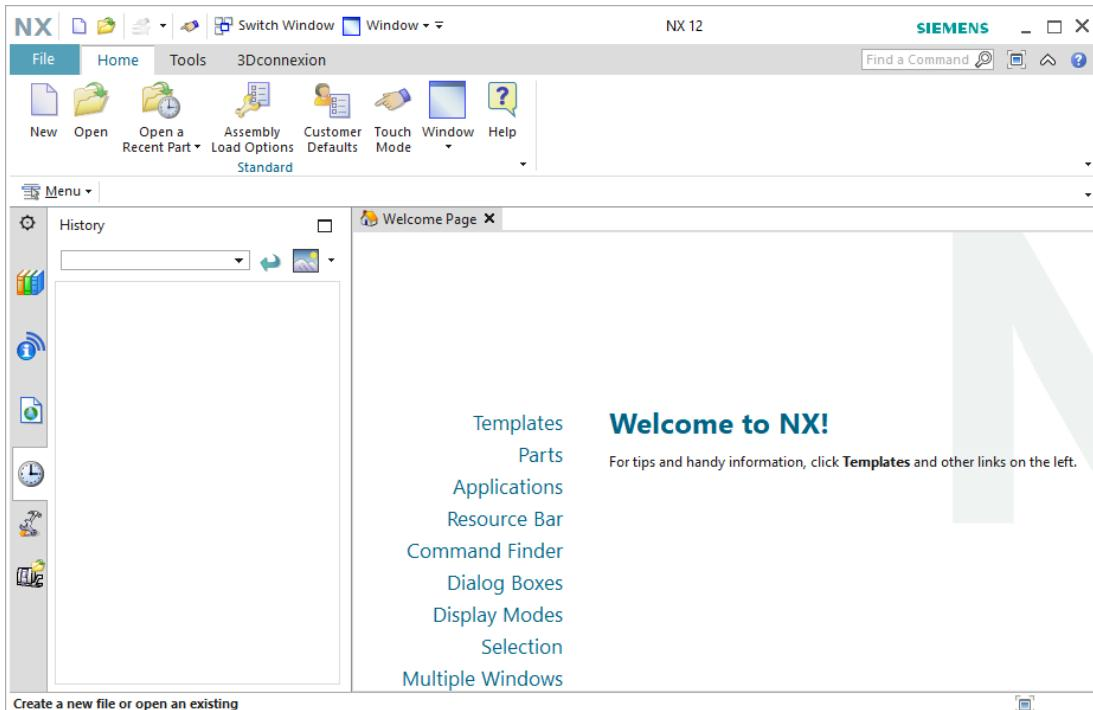

Figure 6: Welcome Page of the NX software
1. First, ensure that the "NX V12.0" software is installed and open. If that is not the case, look for the application in the Start menu or on your desktop. After starting the software, you should arrive at the Welcome Page of NX, as illustrated in Figure 6.